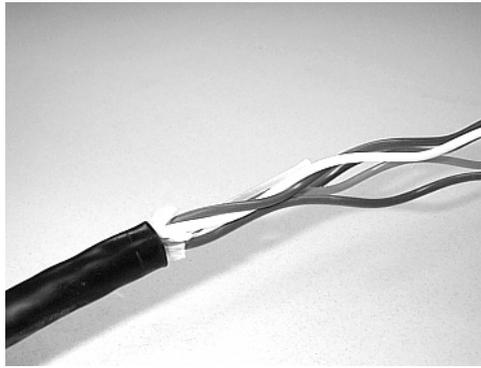

Figure 36 - Unwrap the buffer tubes.
7.12 Carefully unwrap the buffer tubes from one another and remove any water blocking threads from between the tubes and the central member (Figure 36).